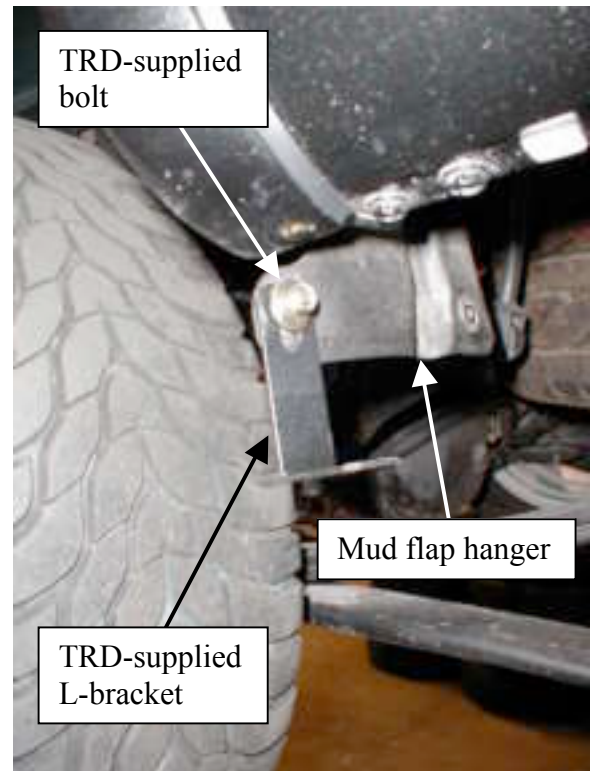

Figure 9
2. Attach the mud flap bracket to the mud flap hanger using the TRD-supplied plated bolt (Figure 9). Leave loose to allow for alignment.